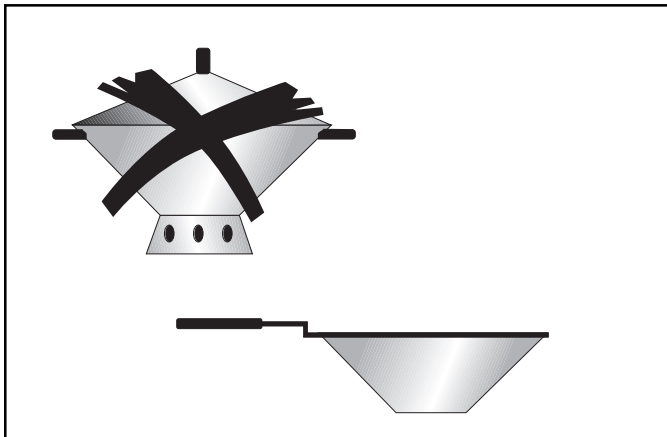

Figure 16
- Do not use a wok with a ring stand. Use flat bottom wok. (Figure 16)